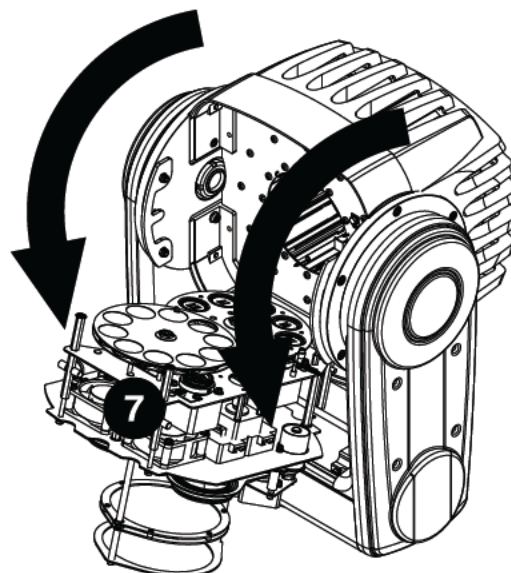

Fig. 4
4. Swivel the whole block downwards (Fig. 4)